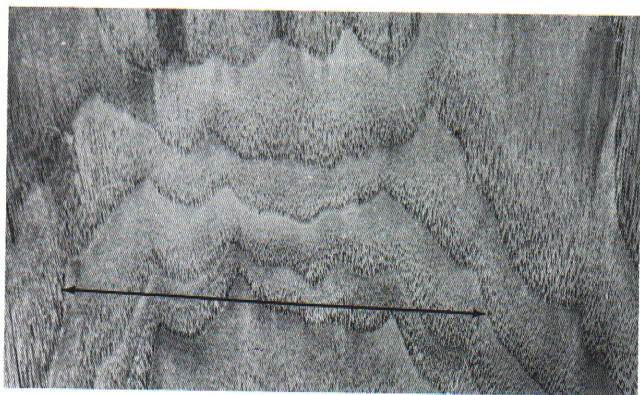

Figure 8—Rotary cut black walnut veneer. Note wide separation of growth ring ends in horizontal direction.
pare Figures 8 and 9 for difference in appearance of rotary cut and sliced veneer of the same species.
22. Chocolate to purplish brown, prominent grain figure on tangential surface, distinct odor (Fig. 8 or 9) ..... **Black Walnut**